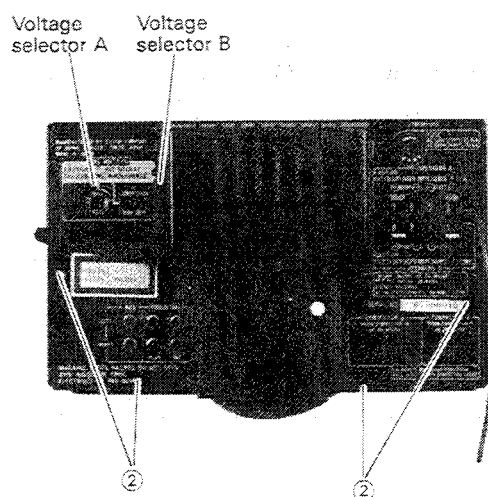

Fig. 3
3. Remove 4 screws ② fastening the rear side.(Fig.3)